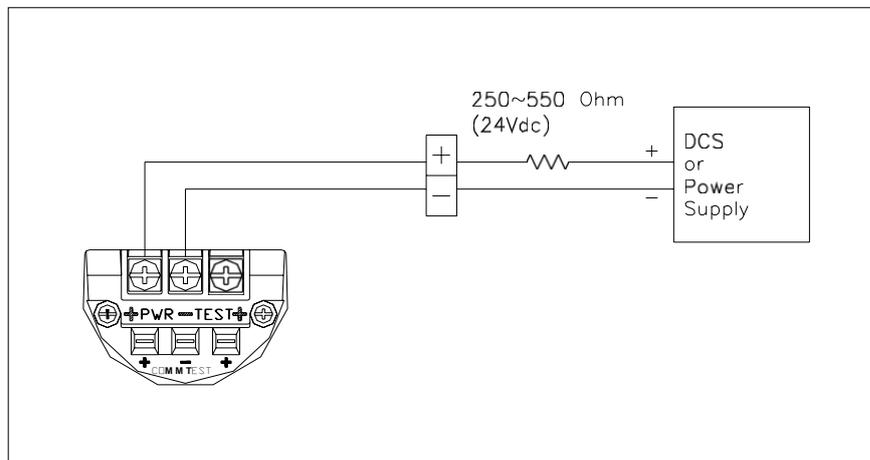

Figure 4-2 Connection with Terminal Board of Transmitter
- (7) You have to connect 250~600 Ω Loop Resistor in Current Loop (between Power Supply and Transmitter) for HART Communication HART. Following Figure 4-2 about connection of Current Loop.